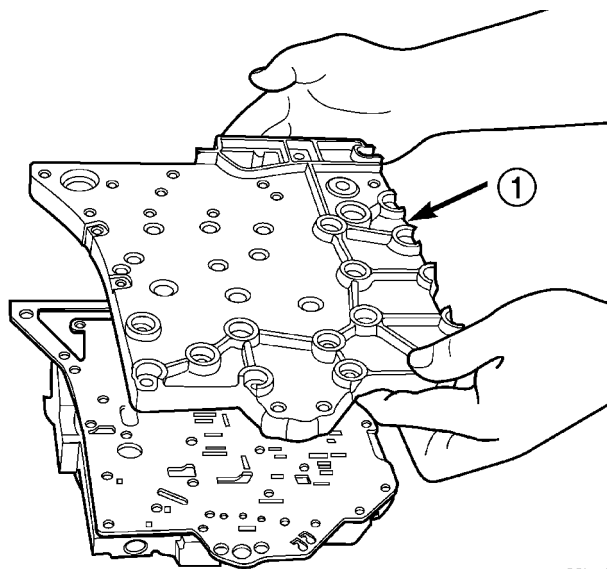

Fig. 347 Remove Transfer Plate
- 1 - SCREW (24)
(7) Invert assembly and remove Transfer Plate (Fig. 347). Beware of loose check balls.